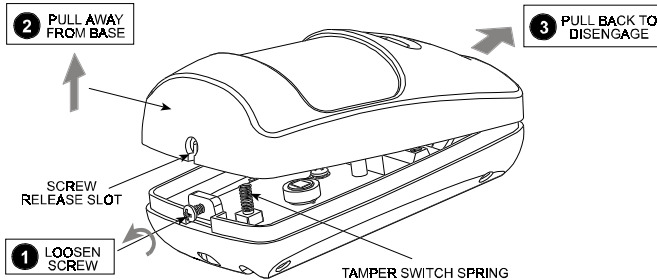

Figure 3. Cover Removal
- Remove the front cover as shown in Figure 3.